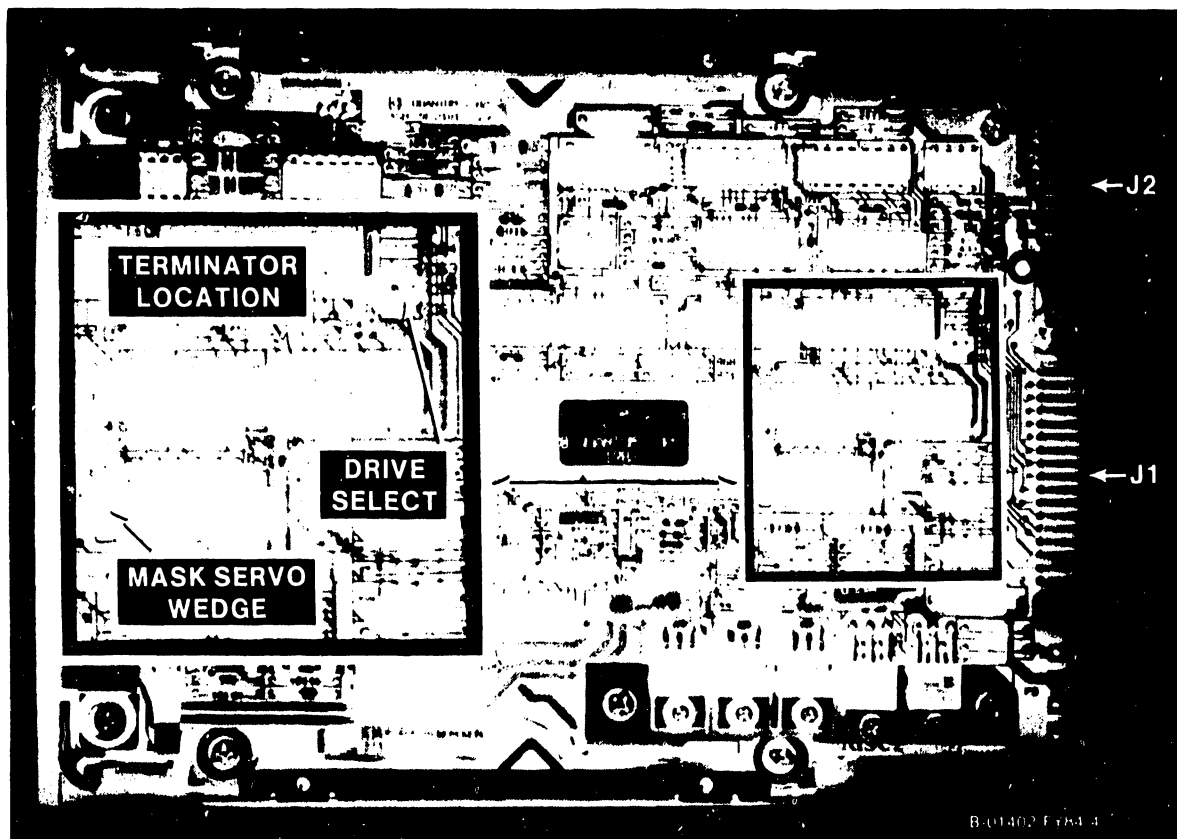

Figure 5-31. 33 Megabyte Winchester Drive Jumper Options
1. Before installing the drive, check the options jumpers and the terminator IC of the Winchester Drive PC board. They should be as follows. (See figure 5-31.)